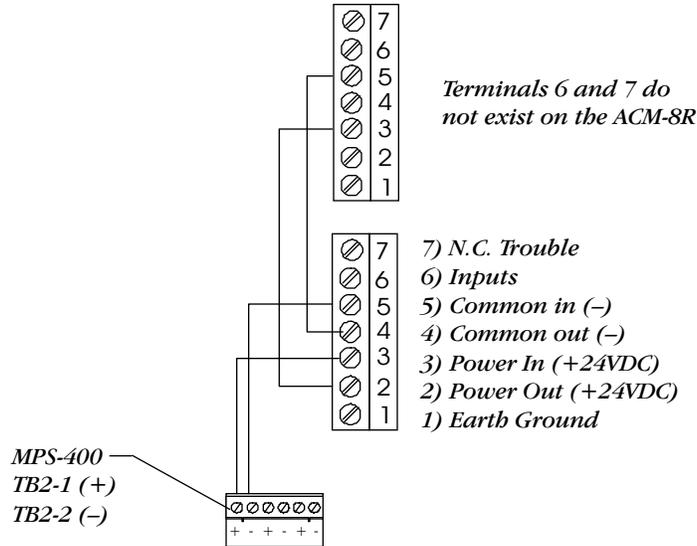

Figure A-3 Power Connections for LCD, ACS Type Annunciators
- Each LCD-80 must connect to regulated 24 VDC power. Power an LCD-80 from the MPS-400 power supply or a separate listed power supply. (See Figure A-3 for power connections.)